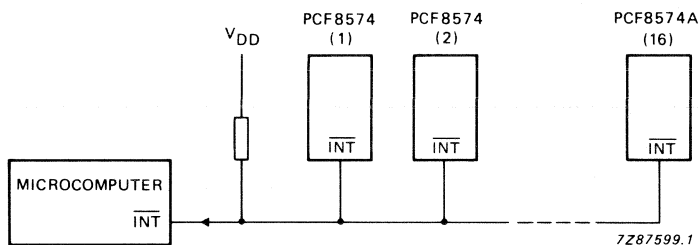

Fig. 12 Application of multiple PCF8574s with interrupt.
**Interrupt** (see Figs 12 and 13)